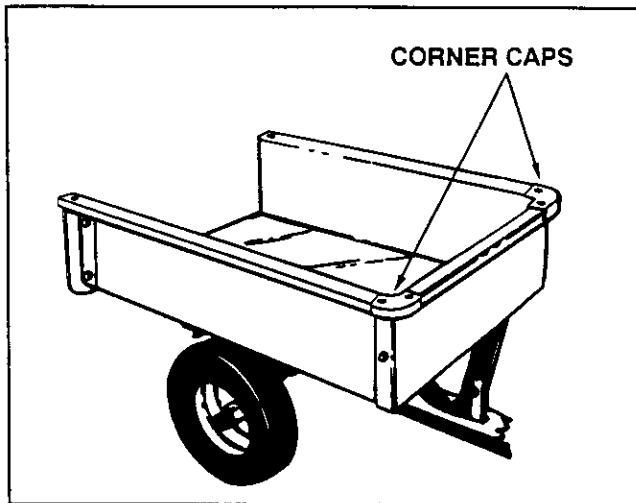

FIGURE 13
- Set the cart right side up on its wheels and place a corner cap over each front corner of the cart as shown in figure 13.